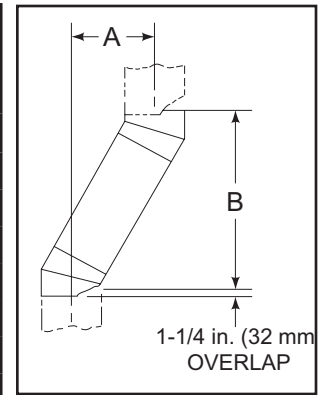

Figure 5.3 Chimney Offset/Return
- Measure how far the chimney needs to be shifted to enable it to avoid the overhead obstacle. See Figure 5.3. Use dimension “A” to determine chimney section required to achieve the needed shift.
Example: Your “A” dimension from Figure 5.3 is 14-1/2 in. (368 mm). Using Table 5.2 the dimension closest to, but not less than 14-1/2 in. (368 mm) is 14-5/8 in. (371 mm) using a 30° offset/return. It is then determined from the table that you would need 33 in. (838 mm) (Dimension “B”) between the offset and return. The chimney components that best fit your application are two SL312s.